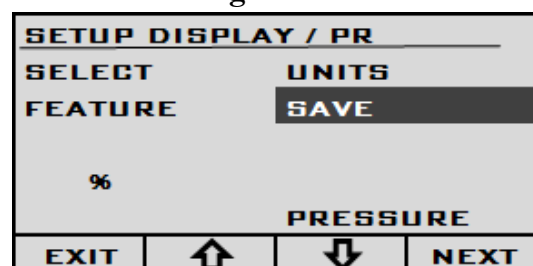

Figure 6.3.5: SAVE option.
- 7) Once you have the display set up select the SAVE option and press the NEXT key. (Figure 6.3.5)